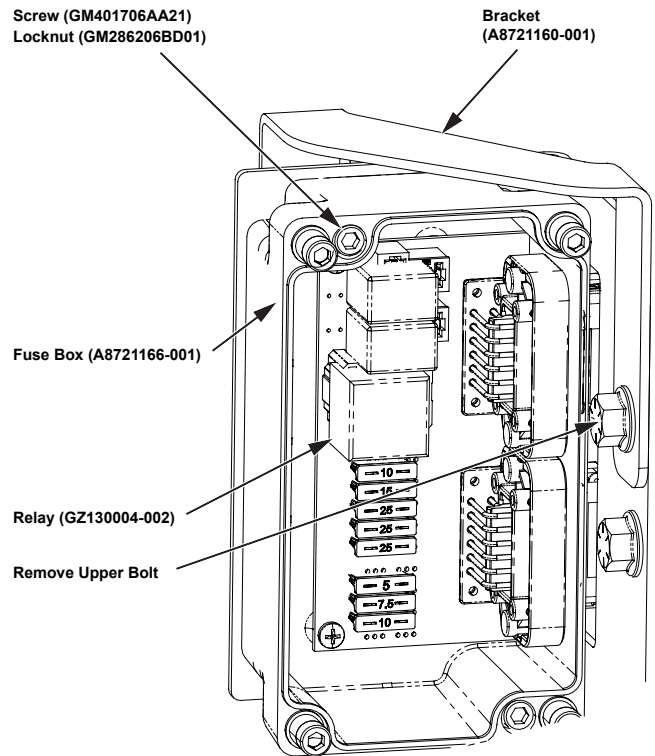

Figure 3, FB3 Fuse Box Detail
- Install the new ignition relay (GZ130004-002) (see Figure 3).
- Remove upper bolt with nut and set aside for reinstallation (see Figure 3).
- Install the new bracket (A8721160-001), using (1) screw (GM401706AA21) and (1) locknut (GM286206BD01) and tighten to 25 lb-in of torque (see Figure 3).
- Reinstall nut and 7/16-14x1 inch bolt in the upright that was set aside in step 5 and tighten to 55 lb-ft of torque (see Figure 3).